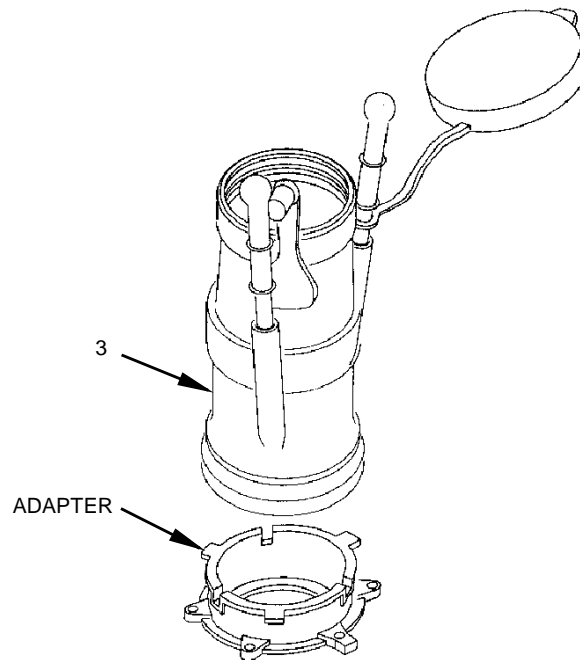

Figure 2. Adapter
3. Engage nozzle collar (figure 2, 3) to adapter.
5. Remove adapter (figure 2).
12. Using adapter (figure 2), engage the collar (3) and rotate lever (figure 1, 7) to the open position to extend shaft (10) to its fullest open position.